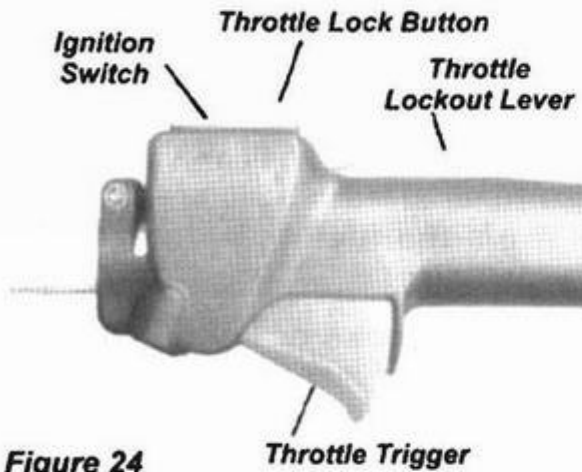

Figure 24
1. Set the throttle trigger to "fast idle" as follows (Figure 24 ):